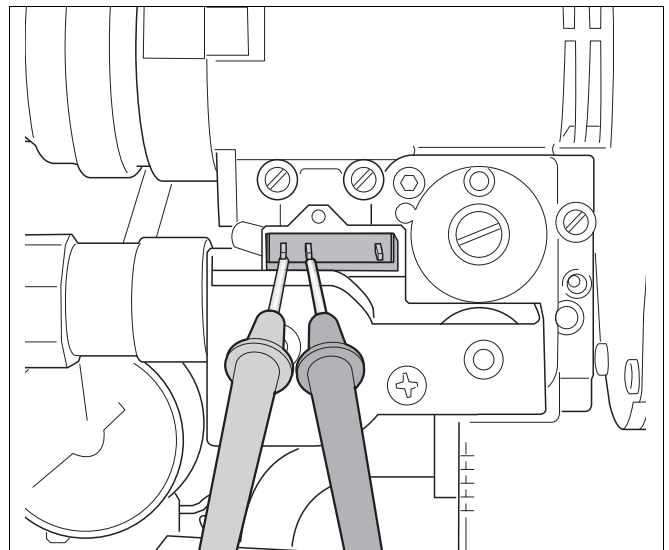
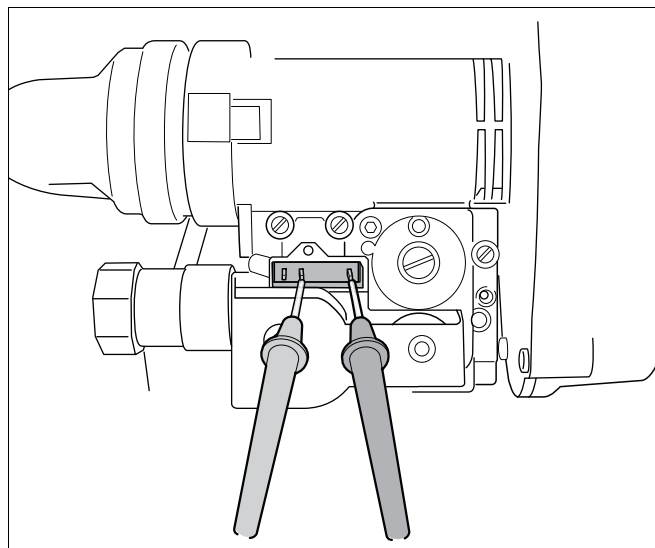

fig. 39 Testing the resistance on the gas burner ass'y (1)
fig. 40 Testing the resistance on the gas burner ass'y (2)
- Test the resistance of both coils of the gas control valve using the volt-ohm-multimeter. The resistance measured between the left and central contacts (see fig. 39) must be approx. 75  $\Omega$  and between the right and central contacts (see fig. 40) this must be approx. 185  $\Omega$  (+/- 10  $\Omega$ ). If this is not the case, the gas control valve will probably be defective. It must then be replaced.